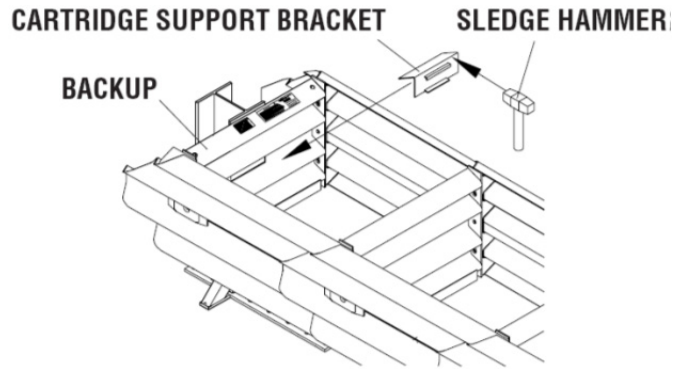

Figure 73
- c. Then, using a sledge hammer and Quad-Beam™ Panel on Backup as an anvil, straighten Cartridge Support Bracket back into 90° shape (See Figure 73).